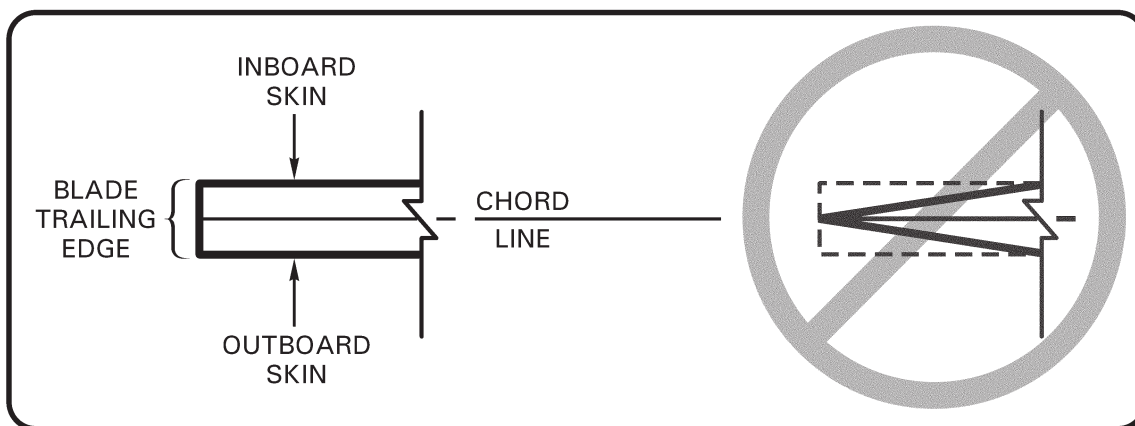

FIGURE 28-4A REPAIRS TO BLADE TRAILING EDGE
1. Refer to Figure 28-4A. Verify damage (or repair) does not exceed following limits:
1. Refer to Figure 28-4A. Trailing edge must remain square with skins; skin must not taper.